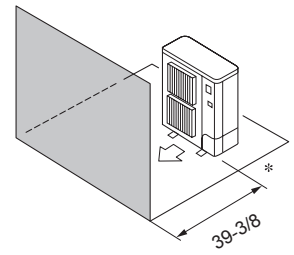

Fig. 3-8
④ Obstacles at front only (Fig. 3-8)